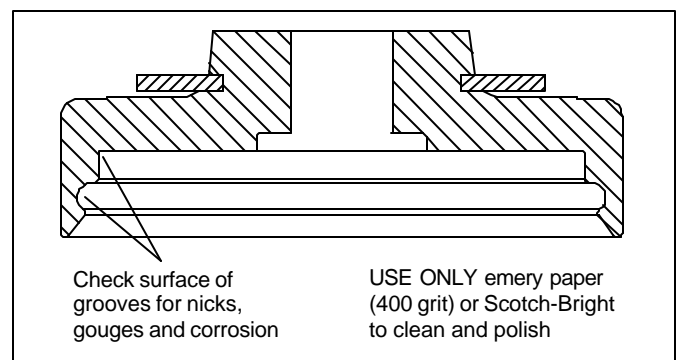

Figure 15 - Retainer O-ring Grooves
- 6) Remove the o-ring retainer. Remove the two o-rings from the retainer and inspect the o-ring grooves (see step 4 in Valve Inspection and Fig. 15 below).